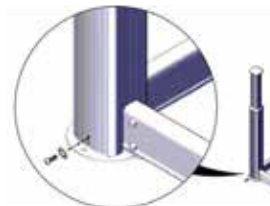

FIGURE 77: SLEEVE BOTTOM SCREW
- Partially unscrew the M6 x 20 mm Phillips screw located at the base of the external sleeve of the post, see Fig. 77